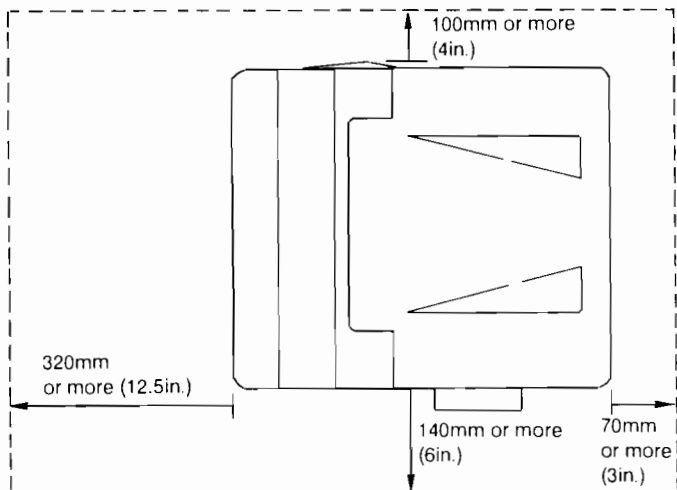

Figure 2-1. Printer Space Requirements
- Install away from walls or other objects. There must be enough space around the printer for proper access and ventilation (see Figure 2-1).